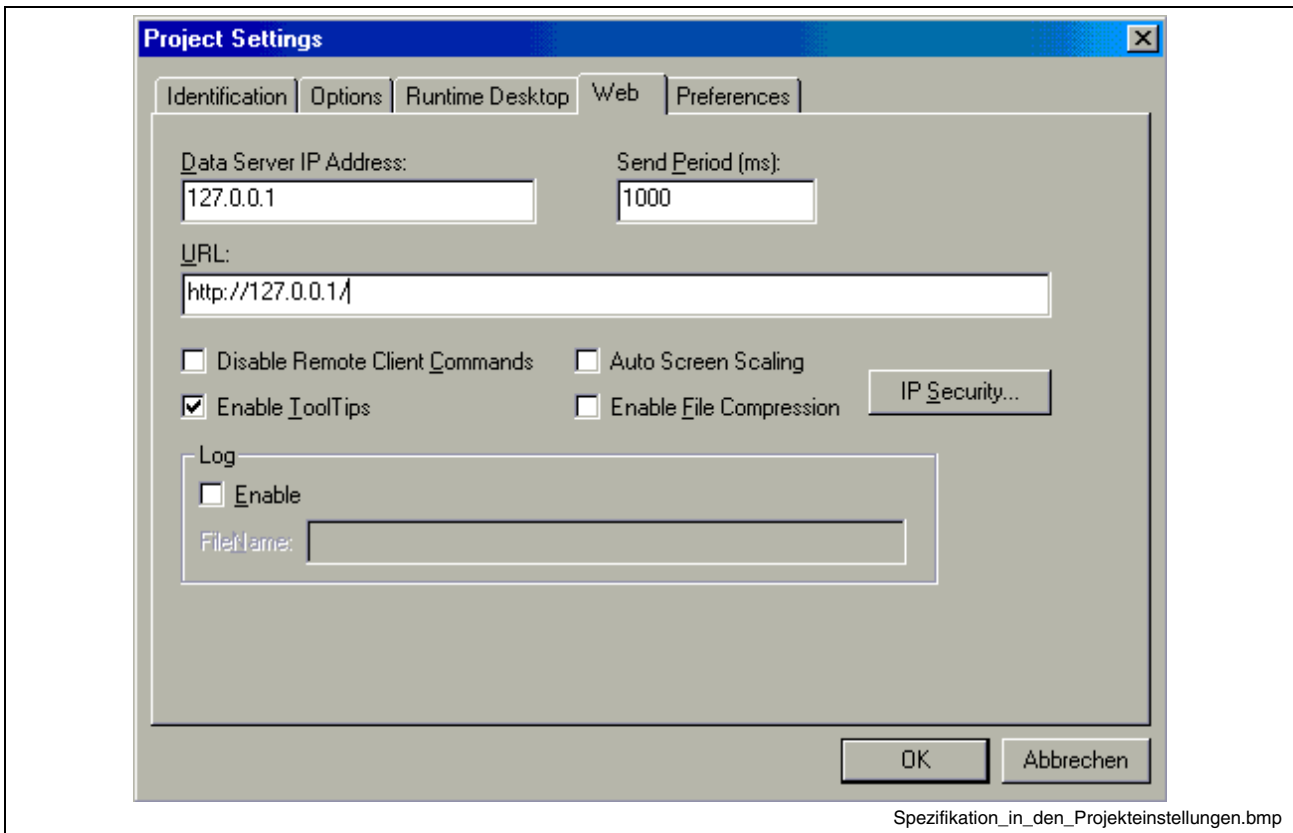

Fig. 6-5: Specifying the project settings
- Fig. 6-5: Specifying the project settings 6-4